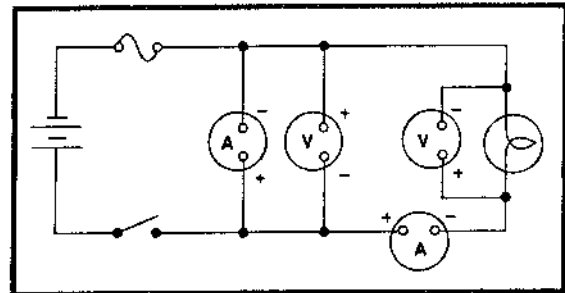

Fig. 9.2. Circuit
6. (Refer to figure 9.2) How many instruments (voltmeters and ammeters) are installed correctly ?